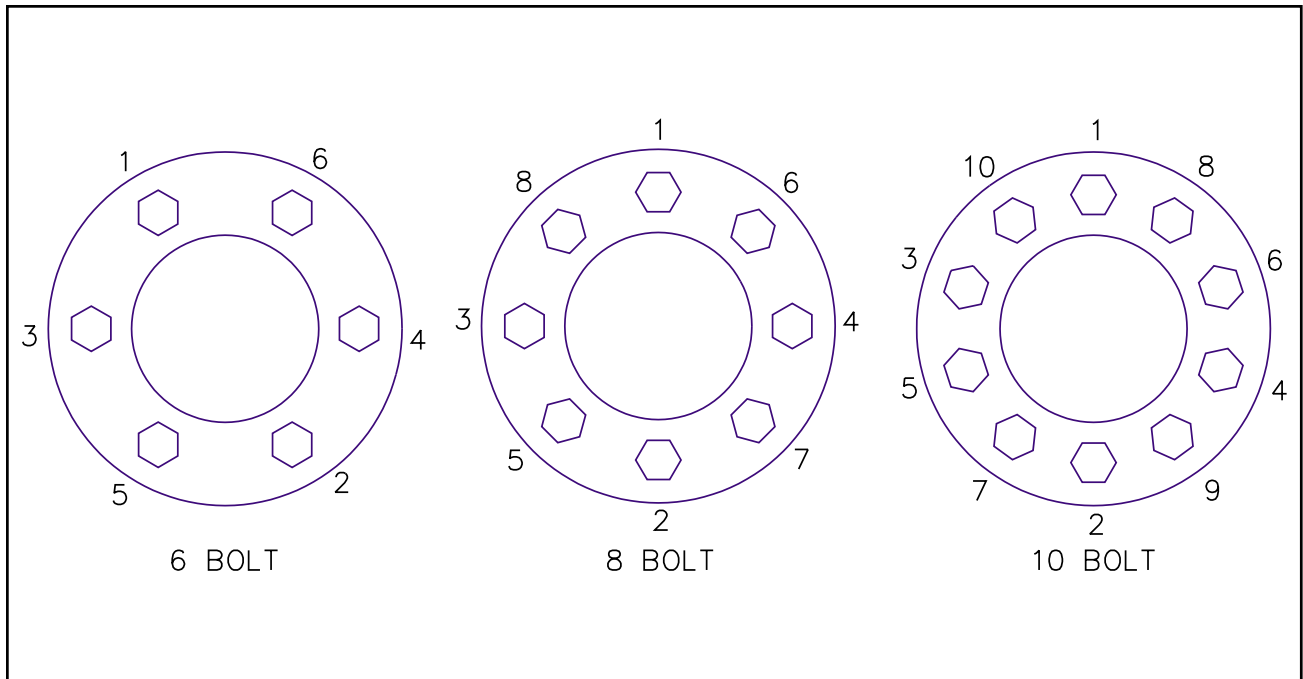

Figure 4-17 Stud Tightening Sequence
- c. For ball seat mounted wheels only, install the inner capnuts on the studs and tighten to fifty foot-pounds using the sequence illustrated in Figure 4-17. Make certain that the left-handed threads are installed on the driver side of the vehicle and the right-handed threads are installed on the curbside of the vehicle.
- d. Tighten the inner capnuts to full torque of 450 to 500 foot-pounds using the sequence shown in Figure 4-17.
- g. Install the outer capnuts (ball seat) or flange nut (pilot mount) and tighten to 50 foot-pounds using the sequence in **Figure 4-17**. Then tighten to full torque of 450 to 500 foot-pounds for ball seat and 500 to 550 foot-pounds for pilot mount, using the same sequence.
- e. After they are properly seated, tighten the rim nuts one-quarter turn at a time, in the order illustrated in **Figure 4-17** to a torque of 200 to 250 foot-pounds.